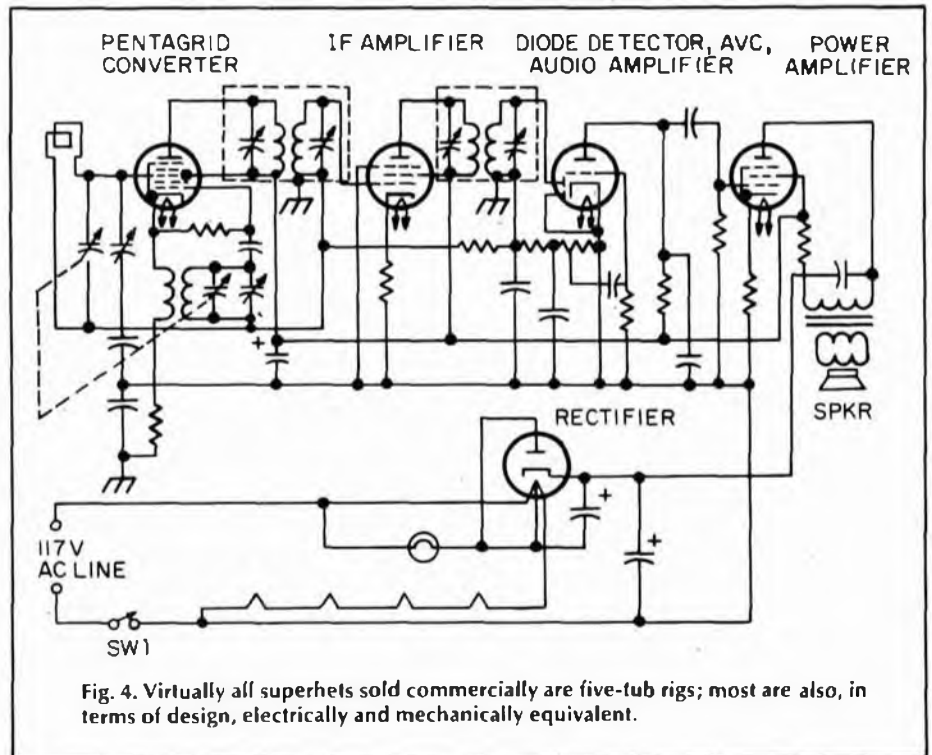

Fig. 4. Virtually all superhets sold commercially are five-tube rigs; most are also, in terms of design, electrically and mechanically equivalent.
Fig. 5. Our schematic of a transistorized superheterodyne receiver is similar to the tubed superhet shown in Fig. 4. Biggest differences between the two are semiconductor diodes found in audio detector, AVC loop, and power rectifier stages.
**Piezoelectricity.** This piezoelectric property means simply that the crystal generates an electric voltage when physically stressed or, on the other hand, will be physically deformed when subjected to a voltage (see Fig. 4). Other familiar objects making use of piezoelectricity include crystal and ceramic microphone elements and phonograph cartridges.